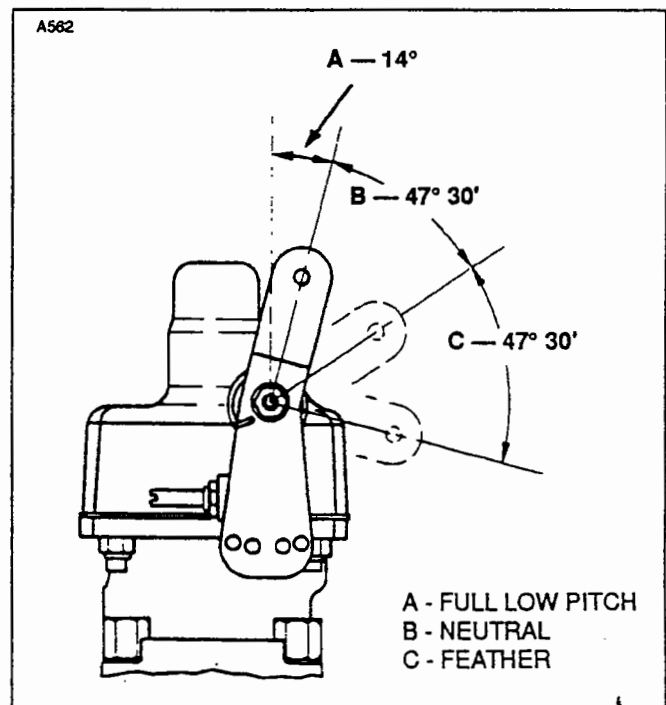

Figure 61-4. Adjustment of Propeller Control
- F. With the high RPM adjustment complete, the control system should be adjusted so that the governor control arm will contact the high RPM stop. The cockpit control lever should be .031 to .062 of an inch from its full forward stop. (Refer to Figure 61-4.) To adjust the control travel, disconnect the control cable end from the control arm. Loosen the cable jam nut and rotate the end to obtain the desired level clearance. Reconnect the cable end and tighten jam nut.